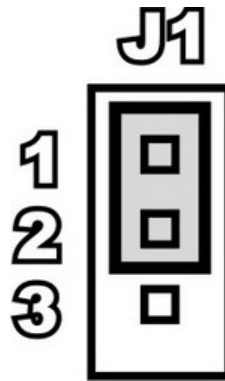

Figure 8 – Position of the Jumper on J1
16. Connect the jumper on **J1** (Fan) to **position 1** and **2** as shown in Figure 8. This will turn on the fan with a 9 V power supply in order to cool down the **LM35** temperature sensor. The digital output LEDs will decrease bit by bit linearly as the temperature on **LM35** temperature sensor decreases.